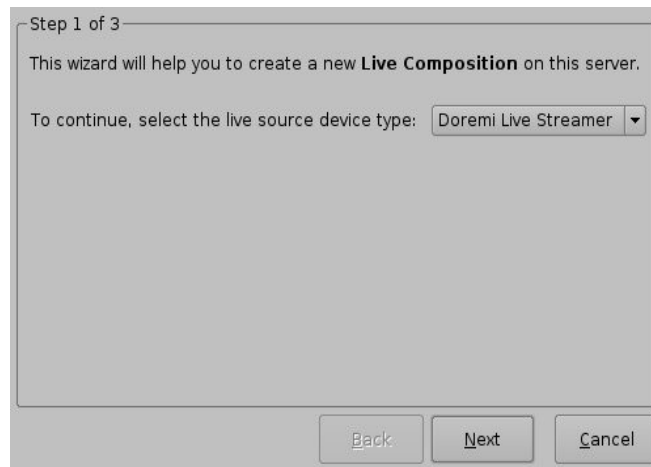

Figure 121: Live Manager – Live CPL Creation Wizard Step 1
- The following wizard window will appear (Figure 121):